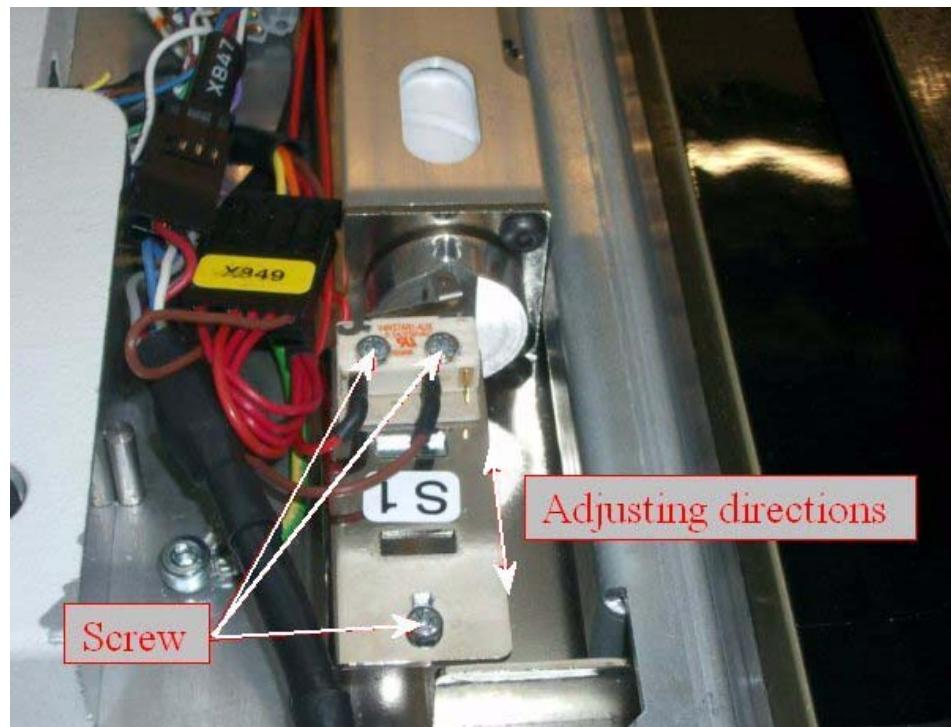

Fig. 4 Adjust grid switch S1
The switch S1, see Fig. 4, on the detector table disables the high voltage when the grid is in the turning point. The switch must be correctly adjusted otherwise the high voltage will be active when the grid is standing still.
2. Loosen the three screws. Now it's possible to adjust the grid switch (S1) alongside the grid (see Fig. 4).